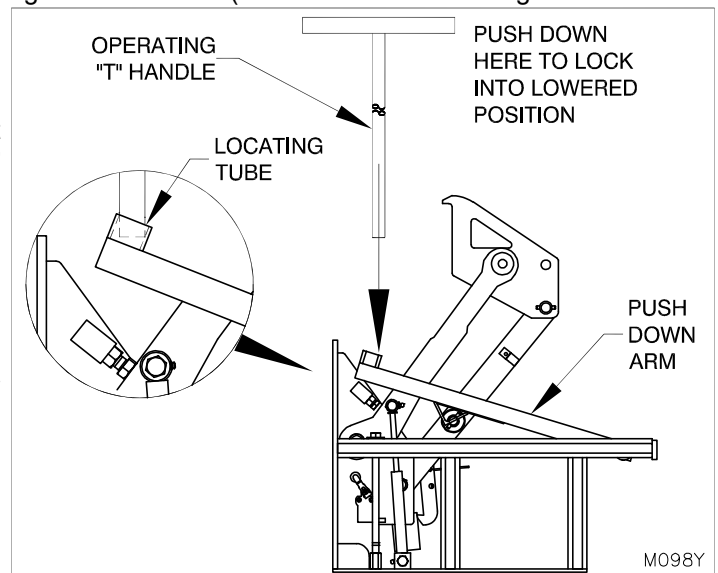

Figure 21: Restraint Raised-Push Arm to Release Vehicle / Return to Stored Position
7. Place the operating “T” handle into the locating detent on the push down arm. Push firmly on the handle to return the restraint to the fully stored position (see “Figure 21: Restraint Raised-Push Arm to Release Vehicle / Return to Stored Position” on page 19). To facilitate easiest lowering, push and continue to push with one continuous effort until the restraint latches in the stored position. The latch must hook under the catch to hold the restraint in the fully stored position (see “Figure 13: Restraint Stored - Push Latch to Release” on page 16).
- If restraint is engaged and selector switch is in the "AUTO" position, place the operating "T" handle into the locating tube on the push down arm. Push firmly on the handle to return the restraint to the fully stored position (see "Figure 21: Restraint Raised-Push Arm to Release Vehicle / Return to Stored Position" on page 19). To facilitate easiest lowering, push and continue to push with one continuous effort until the restraint latches in the stored position. The latch must hook under the catch to hold the restraint in the fully stored position (See "Figure 13: Restraint Stored - Push Latch to Release" on page 16). Illumination of the lights will reverse (inside red and outside green will be illuminated.) The truck is free to depart and the dock is ready to receive another truck.